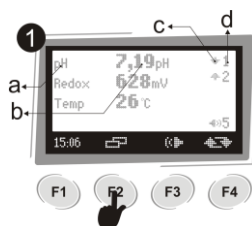

Figure 16/ 1st Main display Page
Channel name, values read in that channel, relays used and their functions are shown on page (1). See: Figure 16/ 1st Main display Page Figure 16